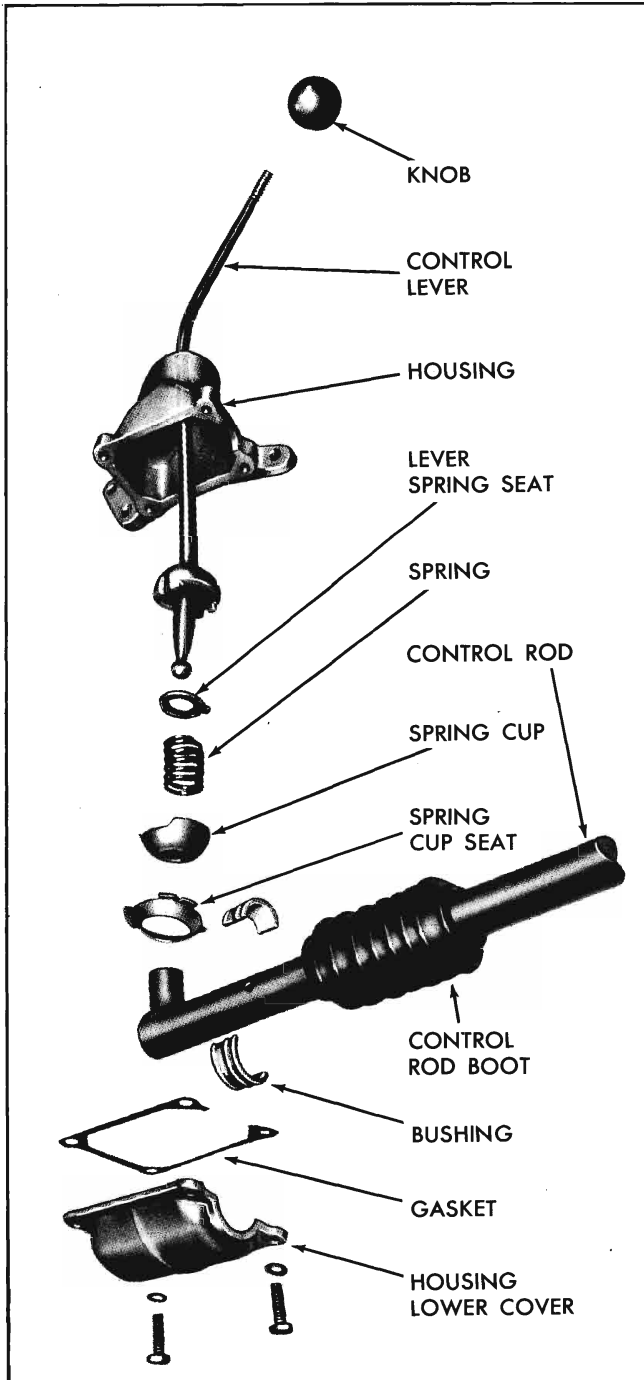
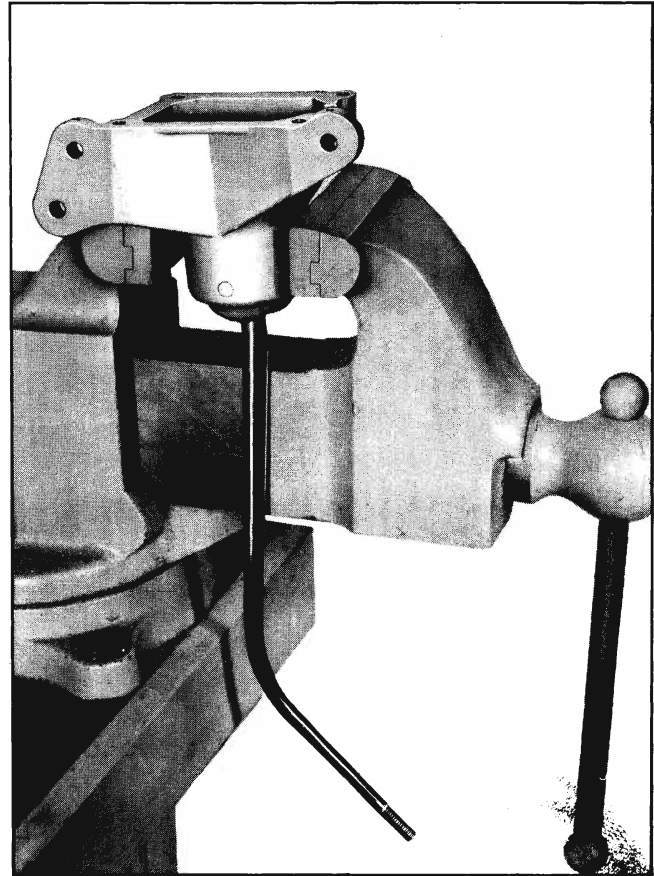

Fig. 7-13 Gearshift Lever and Housing
Fig. 7-14 Housing in Vise
1. Remove housing lower cover bolts and washers (Fig. 7-13) and remove cover.
2. Remove (2) half diameter bushings and transmission control rod. Use wire to support front of control rod.
4. Mount shift control in vise (Fig. 7-14).